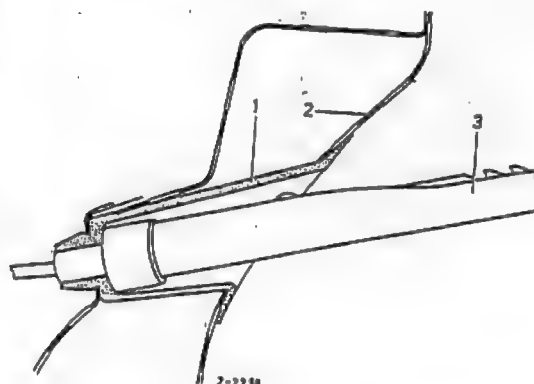

Fig. 42-18/3
5. Push the rubber sleeve (1) over the guide tube (3) (Fig. 42-18/3).